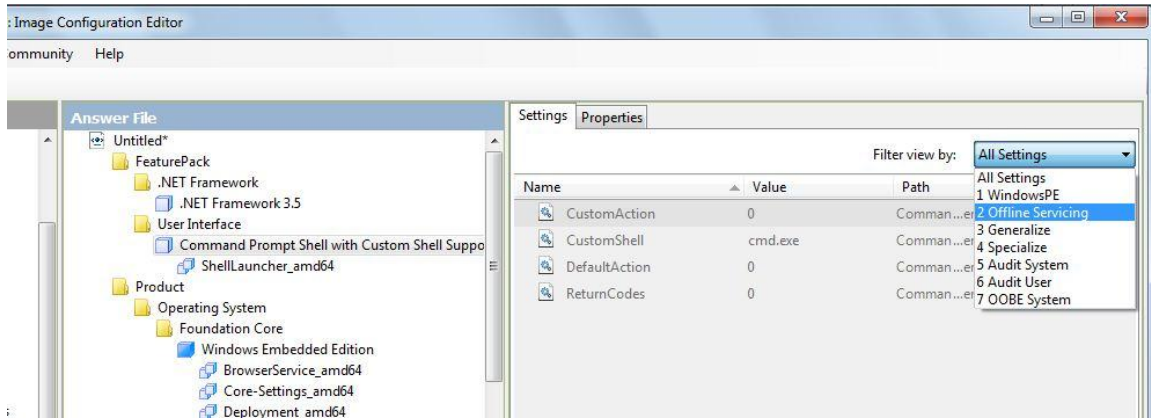

Figure 5-9 - Filter Command Prompt Shell Settings
- In the properties tab to the right, you will see that the Command Prompt Shell properties are listed for Pass P2. In the “Filter view by” drop-down to the upper right, click the down arrow and select “2 Offline Servicing”, Figure 5-9.